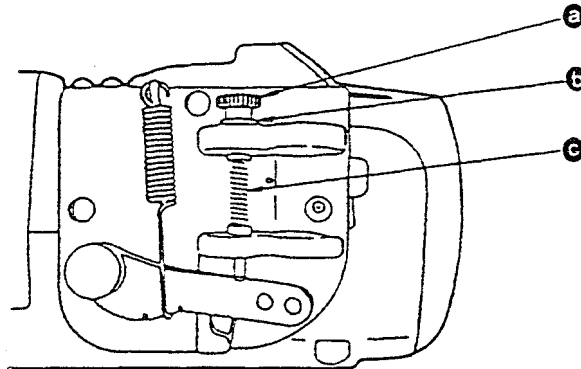

Fig. 1 Pedal sensor A asm.
- 1) Loosen pressure adjusting nut **(b)** in the pedal sensor A asm. (Fig. 1) and remove pressure adjusting screw **(a)**. Remove spring A **(c)** and replace it with spring B. Then, attach adjusting screw **(a)** and adjusting nut **(b)** in position.